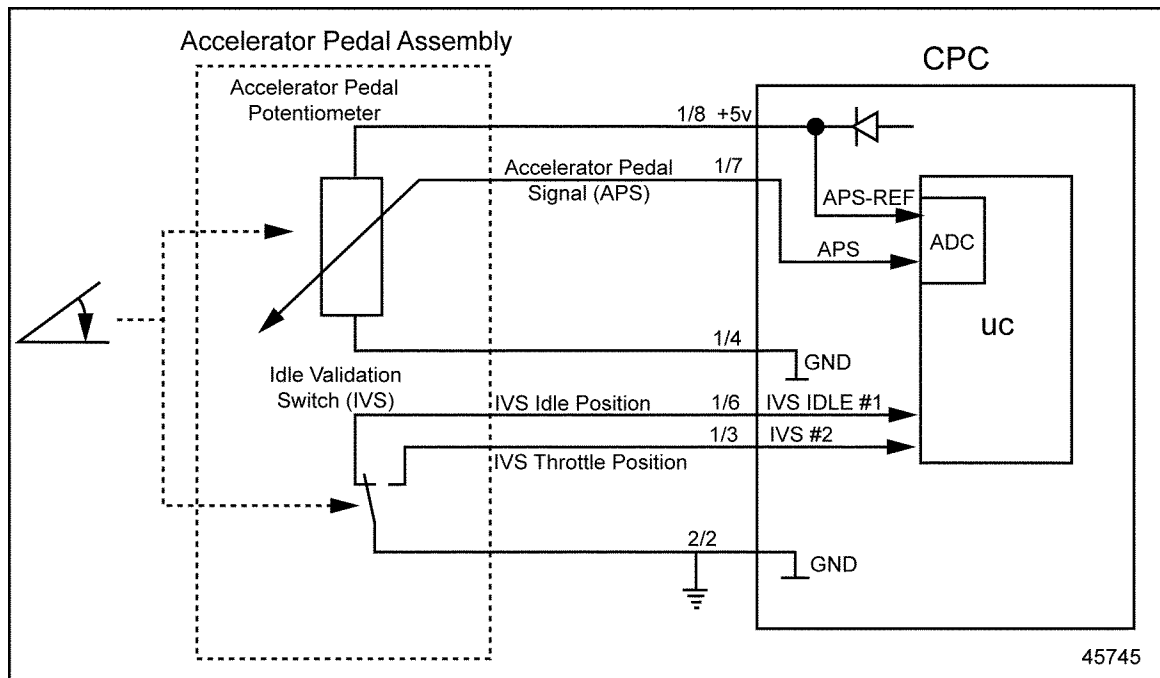

Figure 43-1 Accelerator Pedal Assembly Installation
1. Disconnect the Accelerator Pedal (AP).
3. Measure the voltage between pins 1 and 3 of the AP harness connector. See Figure 43-1.